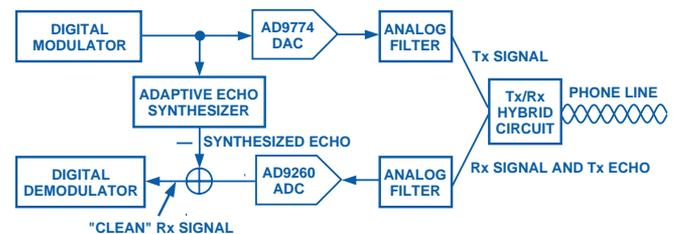

Figure 2. Full-duplex digital error-cancelling modem.
**Typical applications:** 16-bit performance at wide bandwidths and high sampling rates is especially useful in communications equipment. A key example is in echo cancellation in modems for full-duplex communications, where the same channel is shared for simultaneously transmitted and received signals (Figure 2). In such equipment, a strong transmitted signal (and its echoes) and a weak received signal may be in close proximity in time or frequency. In order to sort them out using DSP techniques, the signal must first be converted to digital without losing small components in noise and without generating spurious components (spurs) by distorting large components. This calls for a wide-dynamic-range device that has high SFDR with low distortion (both harmonic and intermodulation) and low quantization noise.